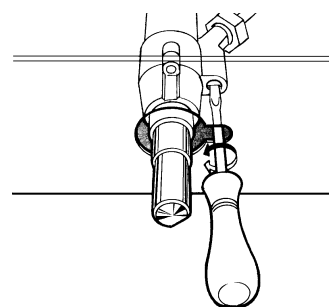

fig.8
- Remove the tap knob and turn the adjusting screw, situated inside of the tap stem (fig.8), using a screwdriver (loosening the screw increases the height of the flame, tightening decreases it).